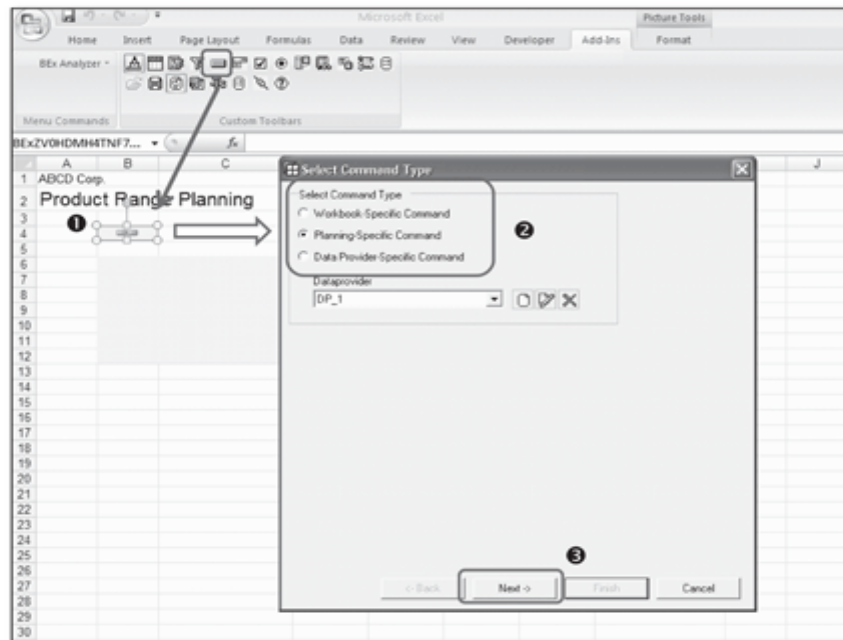
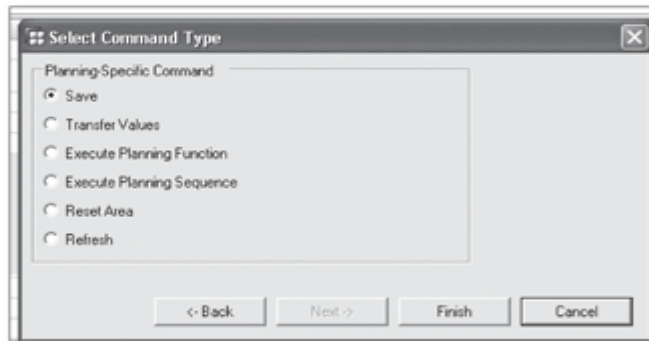

Figure 12.80 Assign a Planning-Specific Command to Button Design Item
Figure 12.81 Select Command Type
of Figure 12.80). We can assign the command to this button in the item properties. Go to the design item properties from the context menu of the newly inserted button, and select the Planning-Specific Command radio button (❷). Then click Next to define further settings (❸).
7. The next screen shows the different planning commands that can be assigned to the button (Figure 12.81). Select the radio button for the Save command, and click on FINISH. This assigns the Save function to the button added.
9. Let's now try to add another command button that will execute a planning function to copy the plan values from the previous year. The procedure is the same as shown in Figure 12.80 and Figure 12.81. First insert the button design item in the workbook, and then select the Execute Planning Function command type from the Design Item Properties screen. Click Next to further customize the properties.